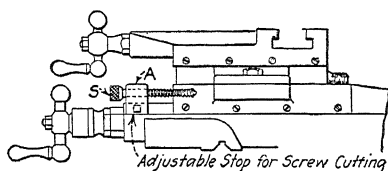

FIG. 187.
**207. The Thread Stop.**—It is usually advisable for the beginner to use the thread stop (Fig. 187). The thread stop *A* is arranged on the carriage in front of the cross slide and the screw *S* slides freely in a hole in the stop and screws into a hole in the cross slide. Turn the screw *S* until it enters the hole in the cross slide  $\frac{1}{4}$  in. or more. Set the thread tool by the gauge, and on center, and run the cross slide in until the point of the tool nearly touches the work to be threaded. Then by clamping the stop, the cross slide (and tool) cannot be fed in except as the screw *S* is loosened.